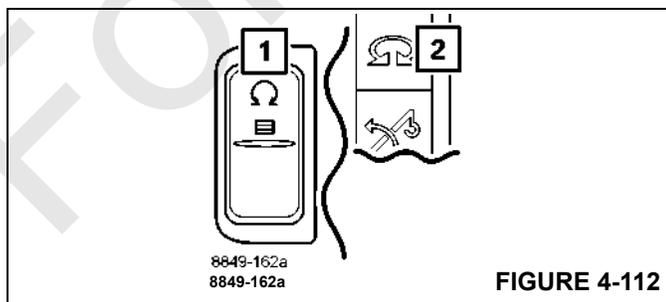

FIGURE 4-112
- Press the button (1), (Figure 4-112) once.
- Symbol (2), (Figure 4-112) is green if the swing gear is switched on.